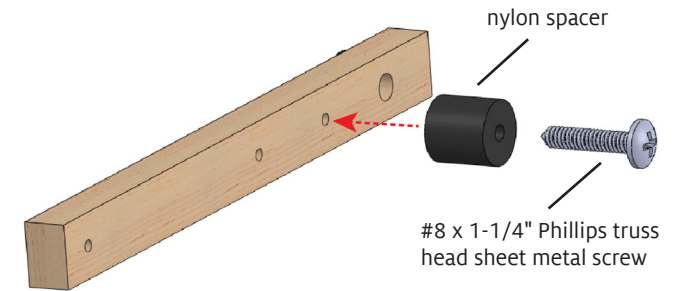

FIGURE 1: ATTACH TRAP SUPPORTS
1. Orient the trap sides as shown in Figure 1: the inner face of each trap side has two large holes at the front for the dowels and a black nut at the back for the knob. In the remaining hole, you will attach a nylon spacer as trap support on the outer face of the side. Insert a #8 x 1-1/4" Phillips truss head sheet metal screw through a 3/4" nylon spacer, then attach to a trap side. Repeat with the remaining trap side.